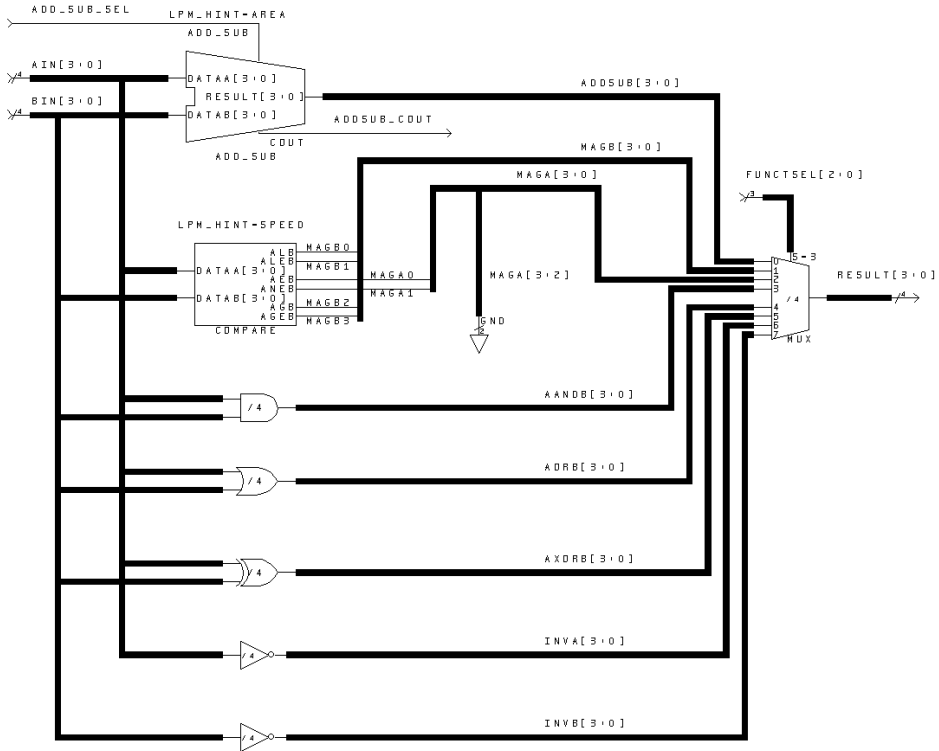

Figure 3-51 Final circuit of PLD design
The final circuit should look like Figure 3-51.
- => Repeat until all buses and nets are labeled as in Figure 3-51.
Now verify that your schematic matches up with Figure 3-51.
- All nets are wired so that the schematic looks **exactly** like Figure 3-51.
If errors were reported, go back and carefully edit the schematic. Make sure that the schematic matches **exactly** as shown in Figure 3-51.